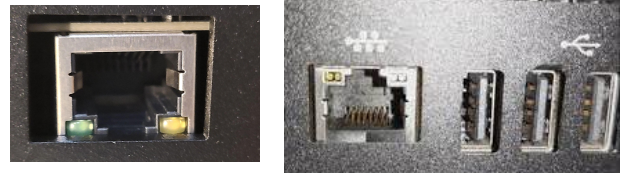

Fig. 11
2. Connect the cable to the ethernet ports on both devices(see Fig. 11).